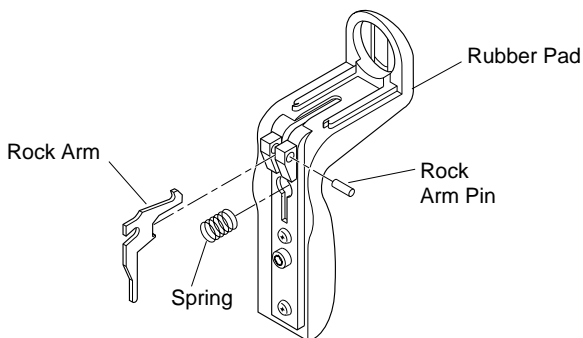

Figure 6 - Removing Rock Arm
1. Push out rock arm pin (see Figure 6).